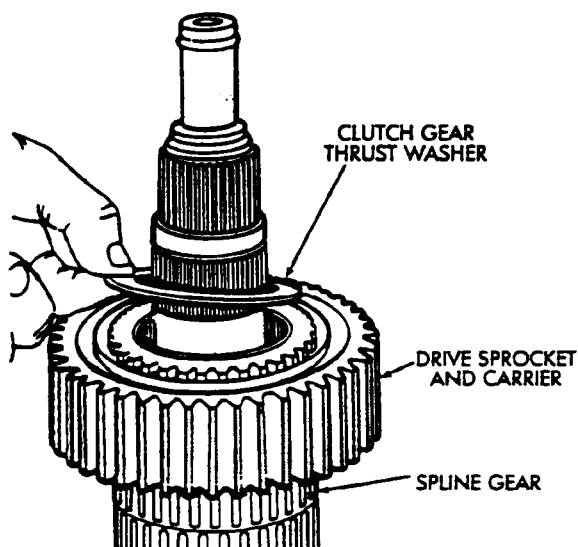

Fig. 4-54 Install Drive Sprocket, Carrier And Clutch Gear Thrust Washer
49. Install spline gear on mainshaft. Then install assembled drive sprocket and carrier and mainshaft (Fig. 4-54).
50. Install clutch gear thrust washer on mainshaft. Position the washer on the carrier (Fig. 4-54).